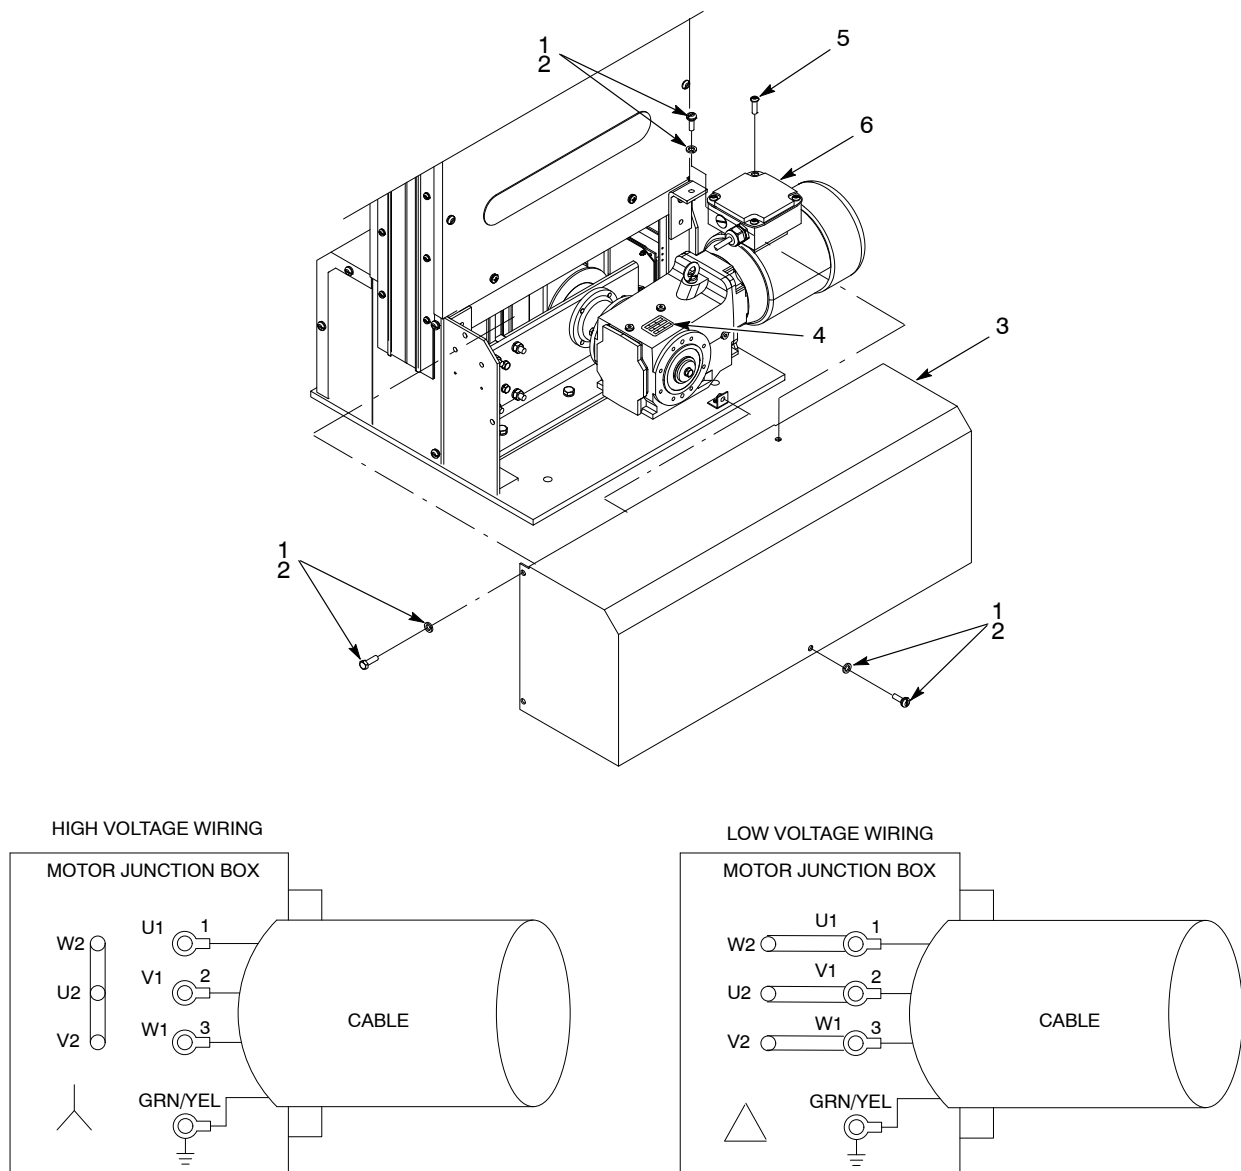

Figure 7 Driver Assembly Motor Wiring
1. See Figure 7. Remove the screws (1) and washers (2) securing the motor cover (3).
3. Remove the screws (5) securing the terminal box cover (6). Change the connection of the terminal jumpers, included with the motor, as shown for low voltage.